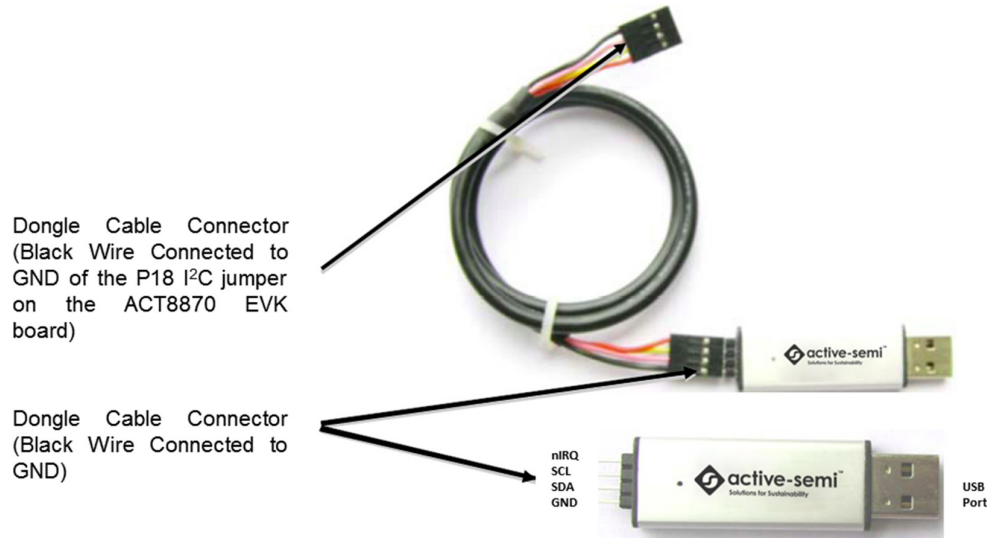

Figure 4 – USB-TO-I2C Dongle Connection
3. Connect the USB-TO-I2C dongle to the EVK P18 connector. Refer to Figure 4 to ensure the correct polarity of the connection. As a guide, use the “Active-Semi” logo on the top of the dongle so the black wire is connected to the Dongle GND pin.